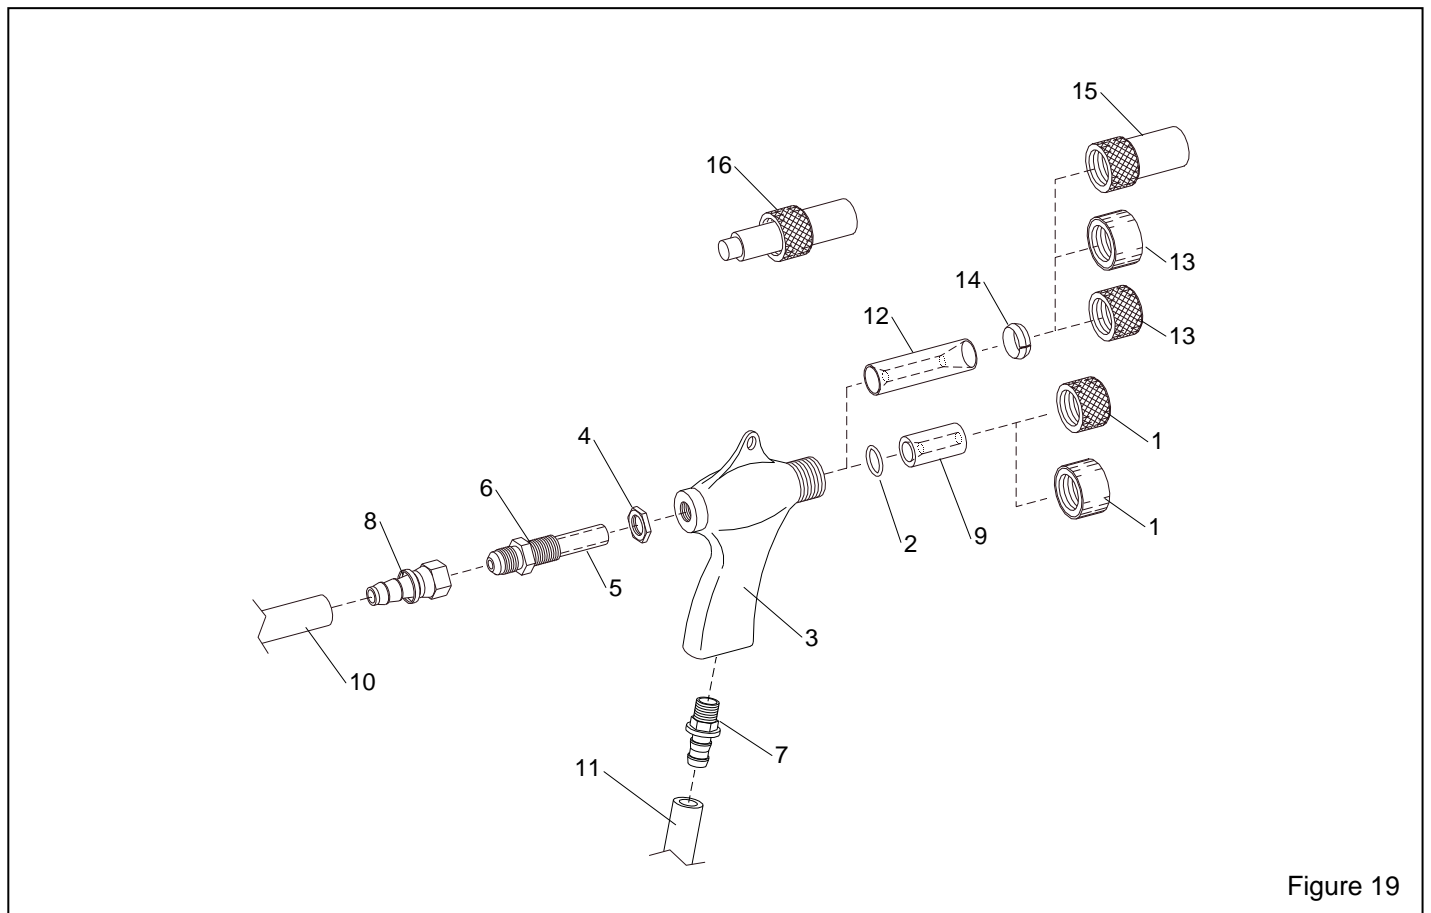

Figure 19
8.6 BNP Gun and Feed Assembly, Figure 19